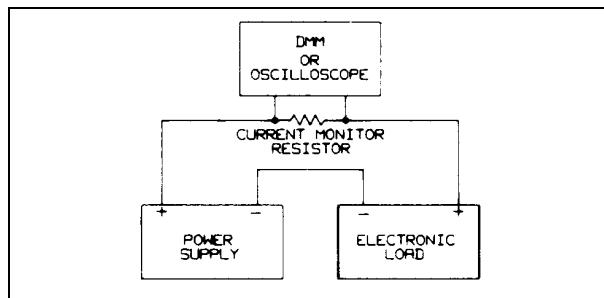

Figure 2-1. Test Setup A
Table 2-1 lists the test equipment required to perform the tests in this chapter. Test setups for the tests are shown in Figures 2-1 through 2-3. Make sure the sense switch on the rear of the module is set to the LCL position since local sensing is used in all of the test setups. Use adequate wire gauge when making connections (see Chapter 3 in the Operating Manual).
- a. Connect the Electronic Load, power supply (Agilent 6031A or equivalent), DMM, and current monitor resistor (0.001 ohm for 60504B; 0.010 ohm for 60507B) as shown in Figure 2-1.
- a. Connect the Electronic Load, power supply (Agilent 6032A, 6030A or equivalent), and the current monitor resistor (0.010 ohm for 60504B; 0.100 ohm for 60507B) as shown in Figure 2-1. Use the DMM to measure the voltage across the monitor resistor and across the module's input terminals.